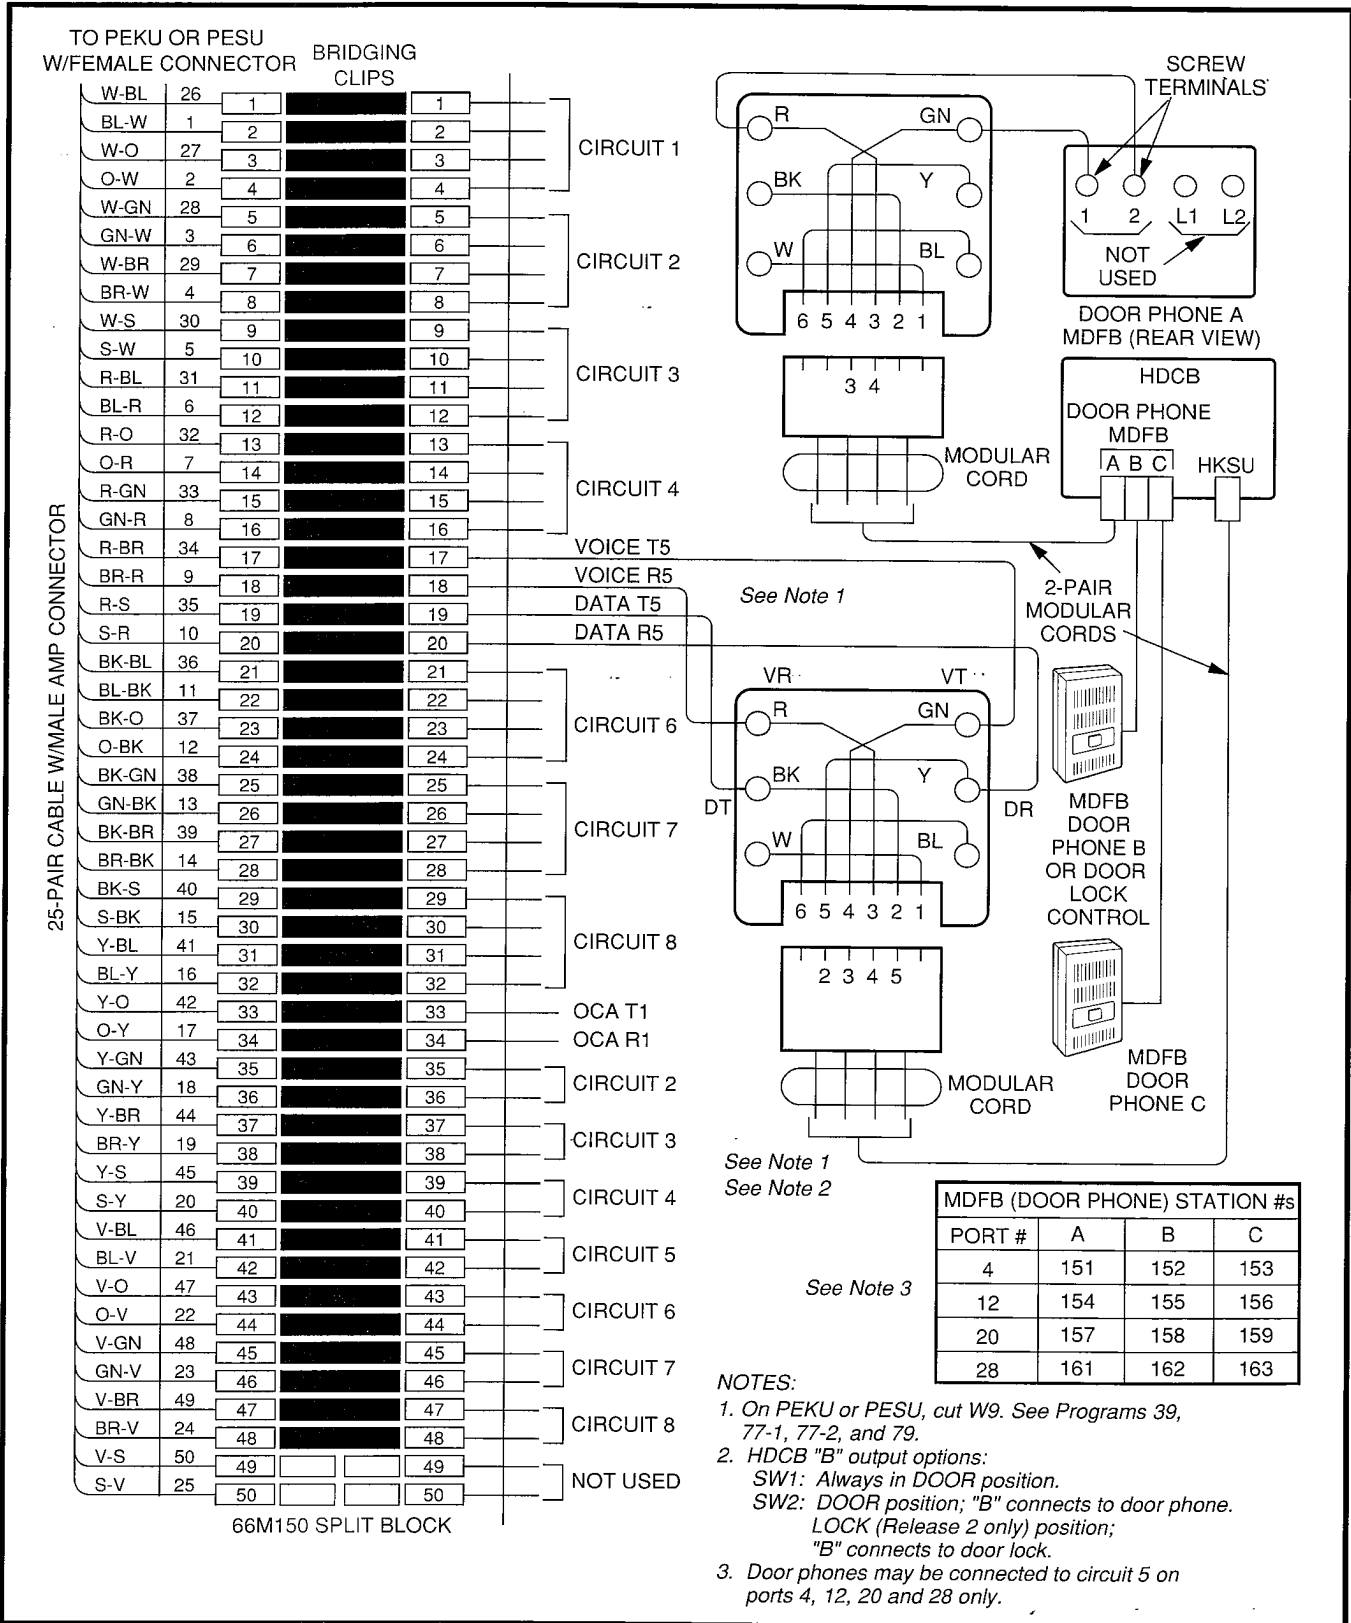

FIGURE 9-3—MDF WIRING-DOOR PHONE/LOCK TO PEKU/PESU
- Figure 9-3—MDF Wiring-Door Phone/Lock to PEKU/PESU